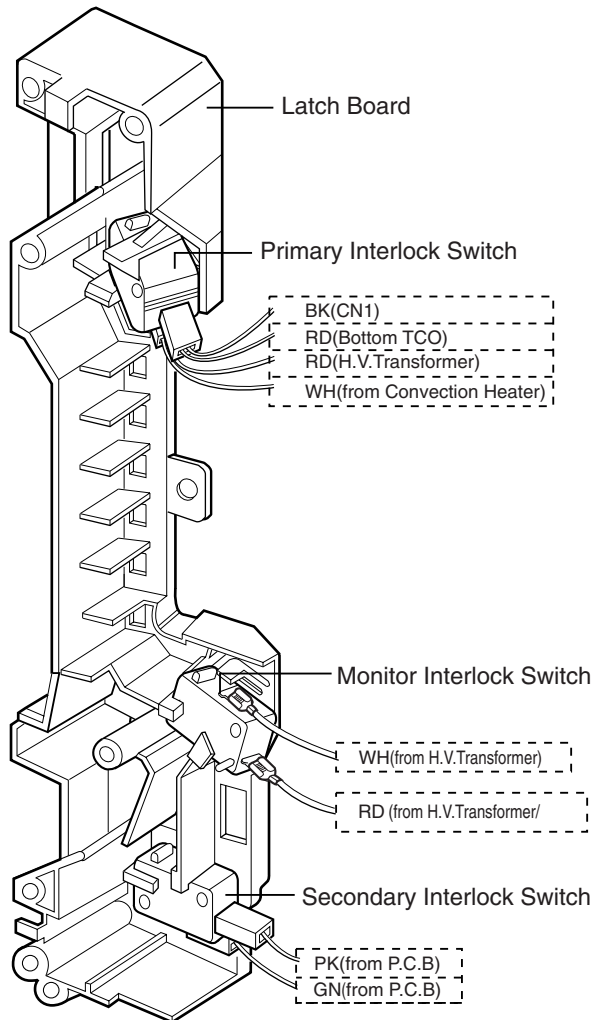

Figure 9
D. REMOVING THE DOOR INTERLOCK SWITCHES (Figures 9, 10)
- (1) Disconnect the wire leads from the interlock switches.
- (2) Remove two screws securing the Latch Board.
- (3) Make necessary replacements and check microwave energy leakage according to "ADJUSTMENT PROCEDURE" on page 7-12.